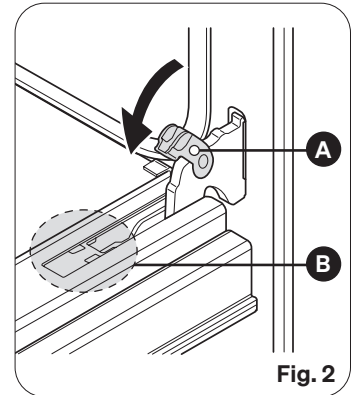

Fig. 2
- Gently close and align the the left and right hinge levers "A" are hooked to part "B" of the door (Fig. 2).